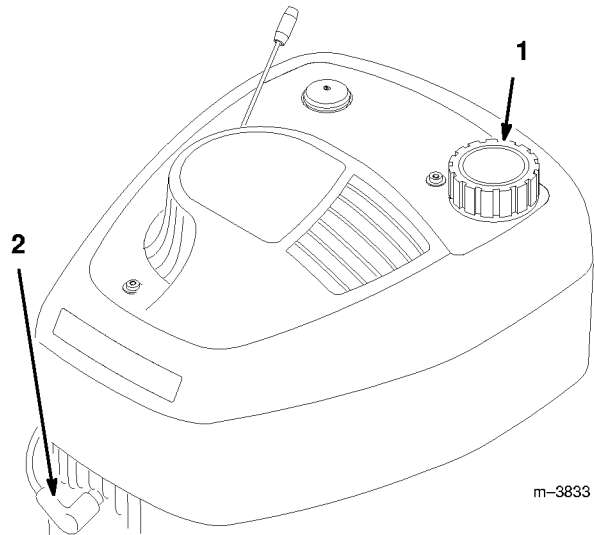

Figure 56
3. Remove spark plug (Fig. 56) and spin engine rapidly using starter to blow excess oil from the cylinder. Clean spark plug or replace if cracked, broken or electrodes are worn.
6. Fill fuel tank (Fig. 56) with fresh, clean gasoline/oil mix.
7. Reconnect spark plug wire (Fig. 56).